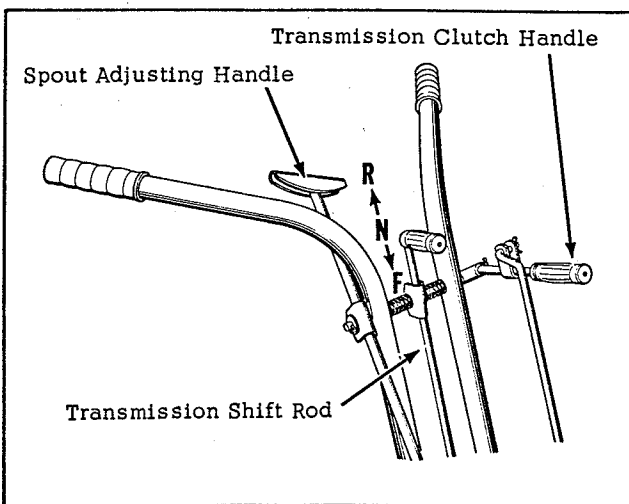

Fig. 2
2. Attach the spout adjusting handle, shift rod, and clutch rod to the upper end of the handles as shown in Figure 2.
The direction of travel of the snow plow is controlled by the position of the transmission shift lever. Refer to Figure 2. When shifting the transmission, always put the transmission clutch in disengaged position. To disengage the clutch, push the clutch lever forward. Refer to Figure 2. With the clutch disengaged, push forward on the transmission shift lever and the transmission will shift into forward position and snow plow will travel forward when the clutch is engaged. To reverse the snow plow, disengage the clutch and pull back on shift lever and transmission will shift into the reverse position. Neutral position of the shift lever is half way between forward and reverse and the lever will be held in this position by a detent lever on left side of the snow plow frame.